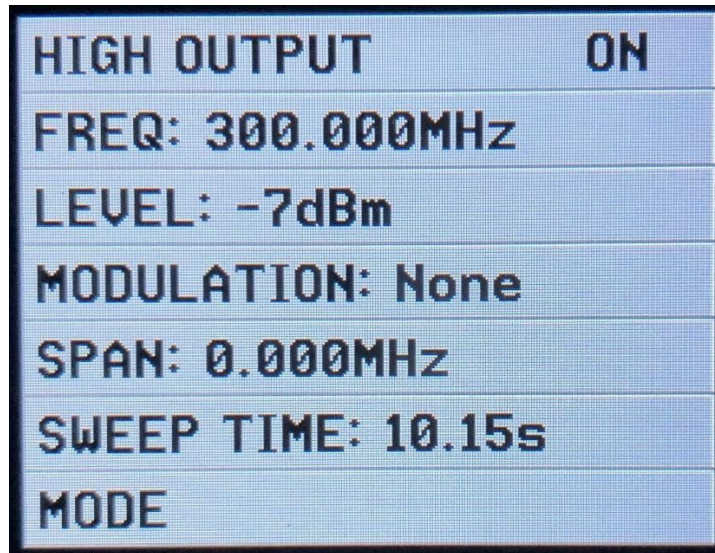

Figure 26
**A little about TinySA as a signal generator which can be read later, but practical to know something about before the actual review of TinySA as a Spectrum Analyzer, as there is references to these functions. If you are impatient, skip to Figure 26**
When everything is set as desired, set HIGH OUTPUT to ON in Figure 26